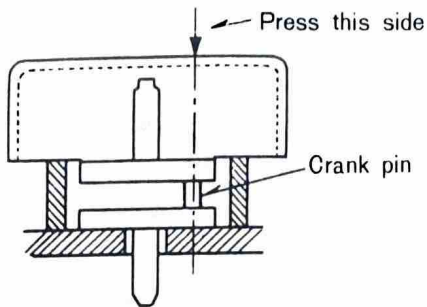

Fig. 4-17-16
- 5) Place Tool No. 2 on the face of the crank wheel and press the wheel downward with a hand press until Tool No. 2 comes in contact with the top of Tool No. 6. Then continue pressing until the pressure load reaches 5 tons. (Fig. 4-17-16)
(Pressure should be applied in the center line of the crank pin. Fig. 4-17-16)